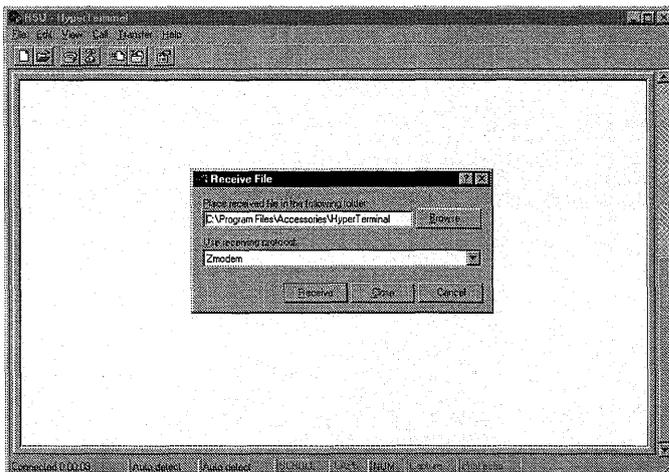

Figure 25
- From the main menu, select transfer, receive file. Use browse to select the directory to receive the files (e.g. "Download"). Click OK to close the "Select a folder" box. Make sure that "Zmodem" is selected in the "Use receiving Protocol" box. Note that the "Receive" button is highlighted; however, this is **NOT** the desired selection in this case. Click **CLOSE** to close the "Receive File" box (see figure 25 below).